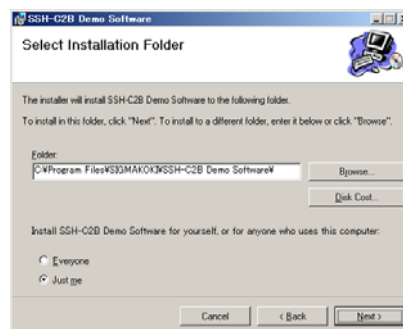

Fig.5-2
3. In the next window (Fig.5-2), specify the directory to save the application. Select application user with the radio buttons at the bottom. It usually can be used without the change. When all users are using the PC, select 「Everyone」; just installers select 「Just me」.